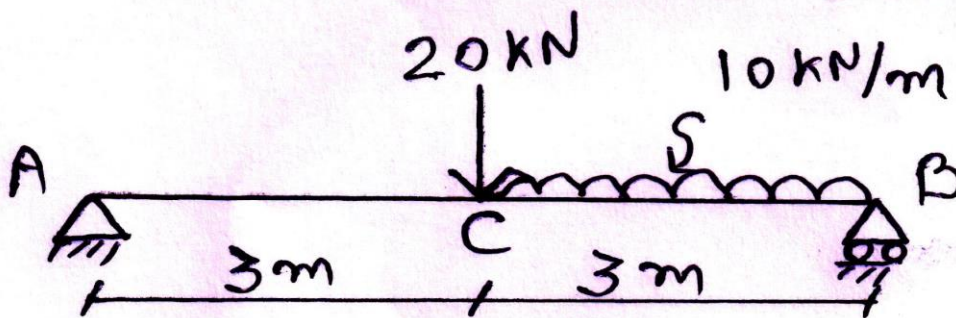

figure: 1 OR Q-3 (a) & (b)
- Q.3** (a) Find slope at support A and deflection at C for the beam shown in figure 1. Take  $EI = 3000 \text{ kN.m}^2$ . Use Macaulay's Method. **07**
- (b) Find slope at support A and deflection at C for the beam shown in figure 1. Take  $EI = 3000 \text{ kN.m}^2$ . Use Conjugate beam method. **07**